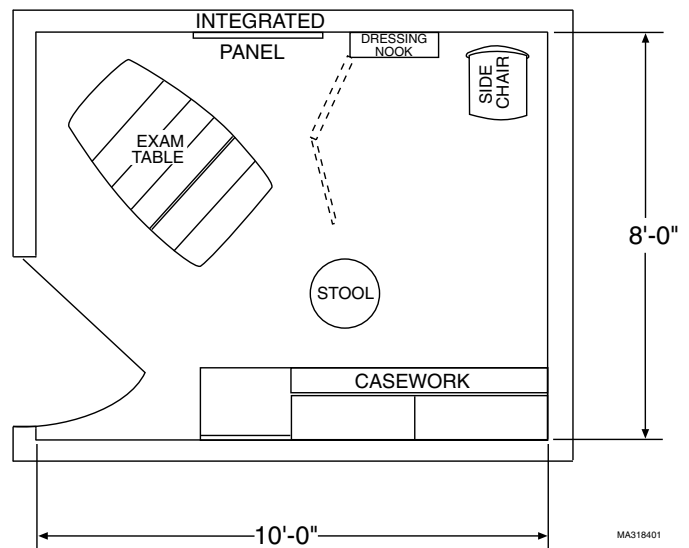

FIGURE 1. SUGGESTED ROOM LAYOUT
The Integrated Panel is mounted to the wall using steel mounting bracket (provided with the unit). Wall anchors and drywall screws are also provided to secure the mounting bracket to the wall. Figures 1 and 2 are suggested mounting configurations and locations only.
1. Using the customer or room layout drawing, determine where the Integrated Panel will be located. See Figure 1 for the suggested room layout.